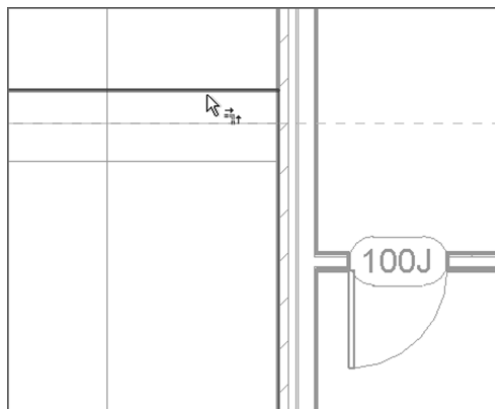

FIGURE 7.25: Using the Trim command in conjunction with the roof sketch
2. Trim the intersections that overlap. There are four of them (see Figure 7.25).